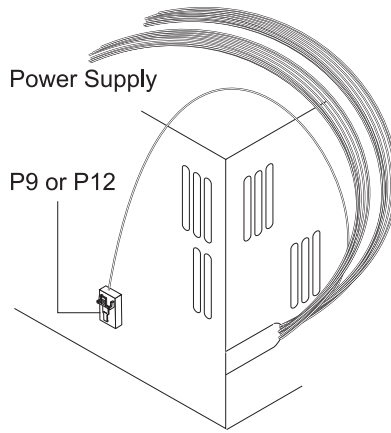

Figure 2-5. PC Power Supply
- 2** Locate the power supply for your system (see Figure 2-5 on page 2-7).
- 3** If your PC power supply has a power cable labelled **P9** or **P12**, as shown in Figure 2-5, continue with “Connecting the 3-Way Combined Wake on LAN Cable.”